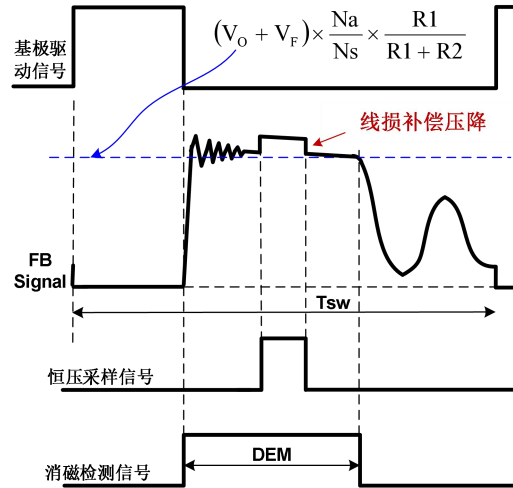

Fig 2
In Primary Side Regulation (PSR) control, the output voltage is sensed on the auxiliary winding during the transfer of transformer energy to the secondary. Fig.2 illustrates the timing waveform of CV sampling signal, demagnetization signal (DEM). When the CV sampling process is over, the internal sample/hold (S&H) circuit captures the error signal and amplifies it through the internal Error Amplifier (EA). The output of EA is sent to
During the CV sampling process, an internal variable current source is flowing to FB pin for Cable Drop Compensation (CDC). Thus, there is a step at FB pin in the transformer demagnetization process, as shown in Fig.2. Fig.2 also illustrates the equation for “demagnetization plateau”,